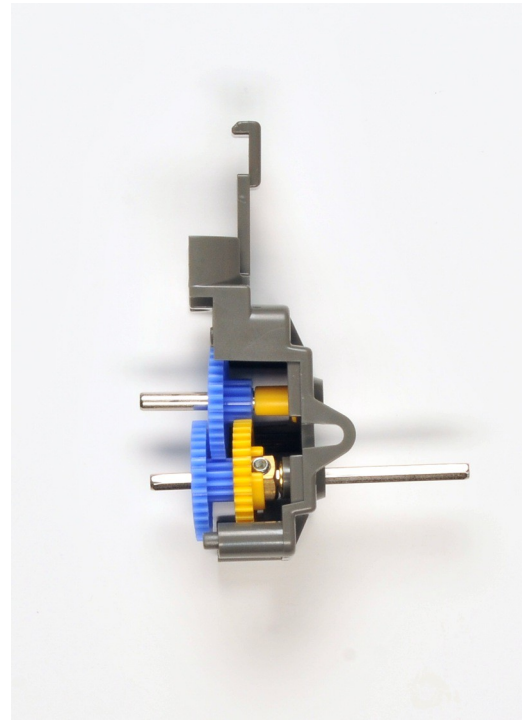

*Figure 1.15*
9. Insert the 3mm (shorter) end into the remaining eyelet on the gearbox housing, as shown in figure 1.15.